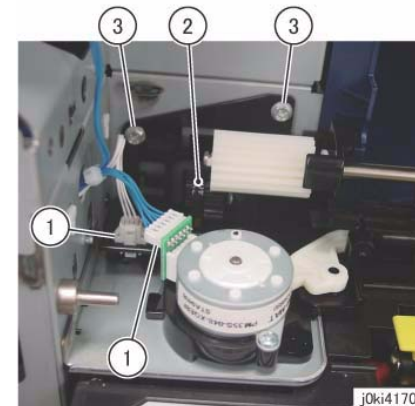

Figure 2 Disconnect the connectors
5. Disconnect the connector. (Figure 2)